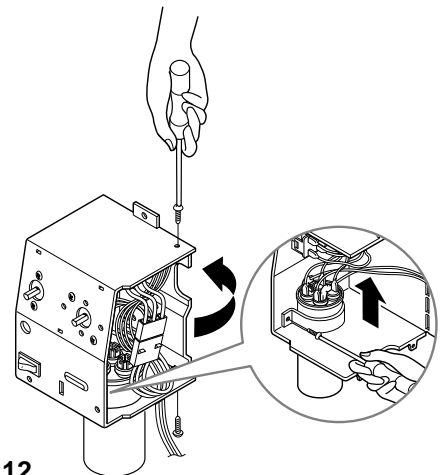

Figure 12
4. Remove 2 screws and unfold the control box. (See Fig. 12)
6. Remove the screw and the clamp which fastens the capacitor. (See Fig. 12)